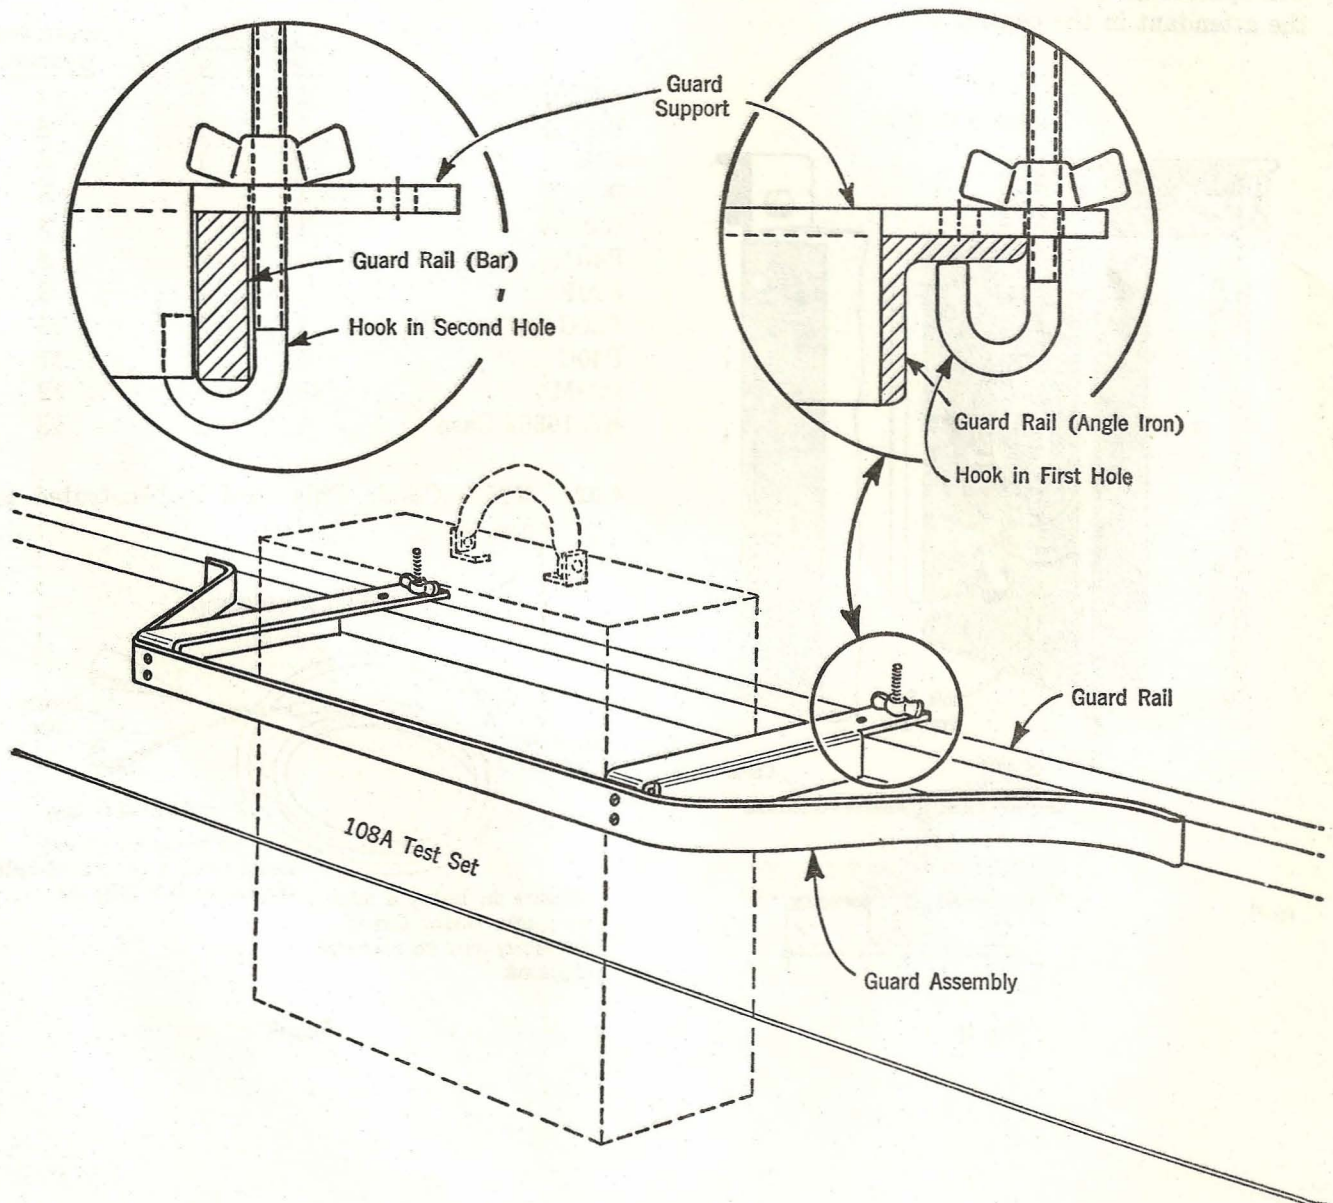

Fig. 2
2.04 The 108A set is supplied with the guard assembly illustrated in Fig. 2. The guard assembly is for protecting the 108A set from being accidentally struck by a main frame ladder. The method of attaching the assembly to the guard rail of a main frame is shown in Fig. 2.